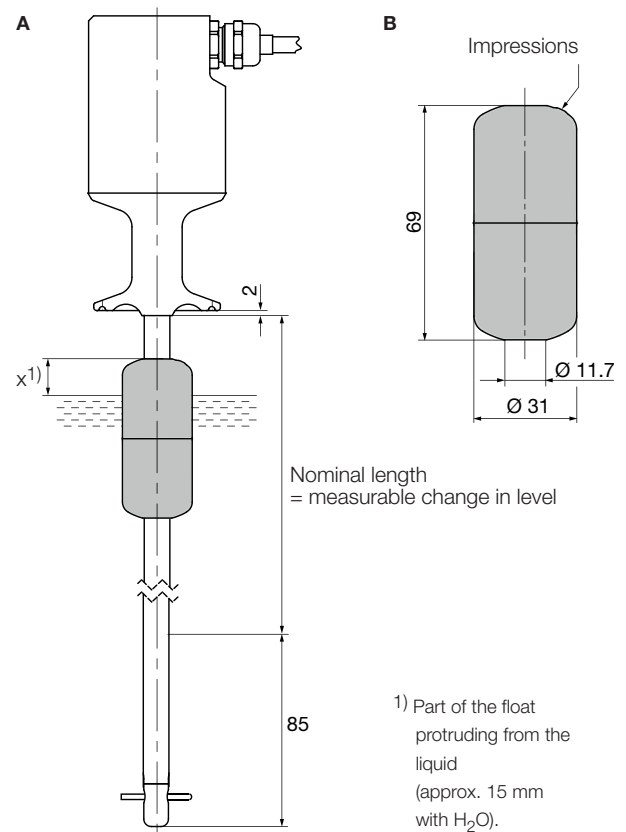

Fig. 1-1: Example (A) for measuring the level with a BTL-S-3112-4Z-SA10 (B) float and BTL...-SF-F... magnetostrictive linear position sensor
2. Place the cotter pin on the bottom end of the rod (see Fig. 1-1).